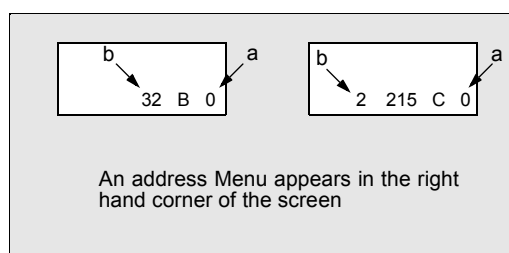

Figure 14. **Serviceman Mode Menu Adjustments.**
Note: *Only the applicable settings for the Receiver serviced will be available (See a in Fig. 14).*
1. Press **Channel Up/Down** on the **Remote Control** to select one of the available Service Adjustments (a in Fig. 14).
Note: Write Down the original value set (b in Fig. 14) for each address before modifying anything. It is easy to erroneously adjust the wrong item.
2. Press **Volume Up/Down** on the **Remote Control** to adjust the level of the selected Service Adjustment (b in Fig. 14).
1. Press Channel Up/Down on the Remote Control to select one of the available Service Adjustments (a in Fig. 14).
2. Press Volume Up/Down on the Remote Control to adjust the level of the selected Service Adjustment (b in Fig. 14).
2. Press **Volume Up/Down** on the **Remote Control** to adjust the level of the selected Service Adjustment (**b** in Fig. 14).